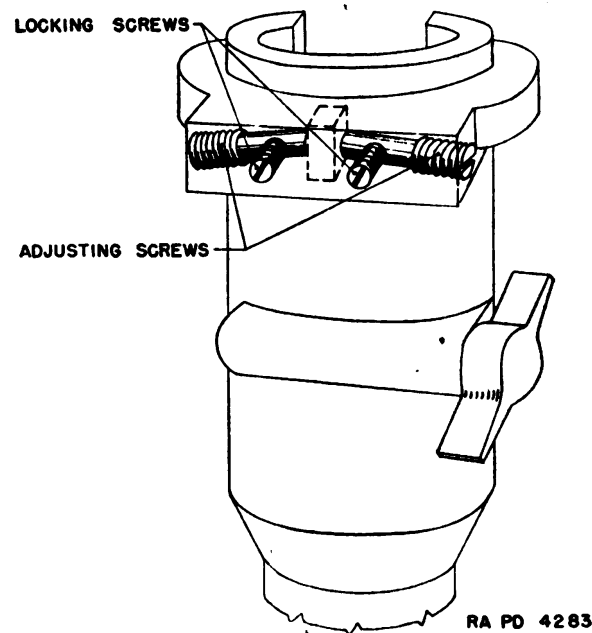

FIGURE 16.—Telescope lateral adjusting screws.
(2) Set up a test target about 50 feet away from the telescope mount. Bore sight on the test target and observe whether the vertical cross line of the telescope reticle falls on the proper vertical line of the test target. If it does not, an adjustment of the socket adjusting screws is necessary.
b. Adjustment (fig. 16).—(1) Set the azimuth micrometer knob to zero against the fixed index. The azimuth micrometer index should be
(2) Loosen the telescope socket locking screws (fig. 16) and adjust the adjusting screws until the vertical reticle line falls on the vertical line of the test target. Tighten the locking screws. The adjusting screw must be set snugly against the upper lug of the telescope but not tight enough to lock in the socket.